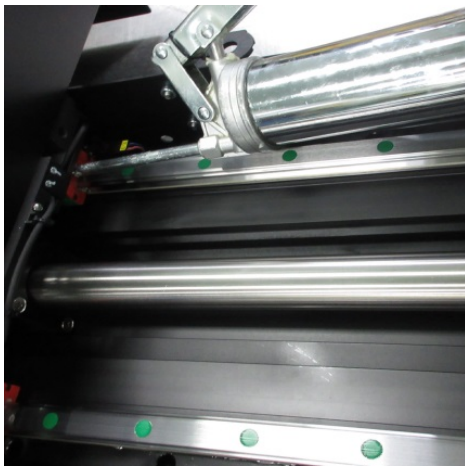

Fig. 5
- (1) Constantly inject grease through the grease nozzle (Fig. 5).